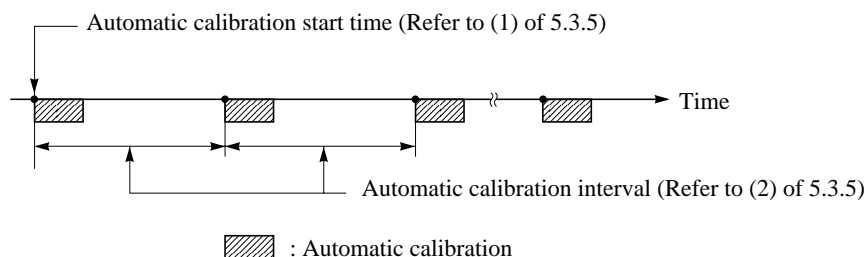

Fig. 5-2 Automatic calibration cycle
- (4) In a cyclic of automatic calibration, the first automatic calibration cycle is effected at the automatic calibration start time, and the second automatic calibrations onward are performed after the set automatic calibration interval period as shown in Fig. 5-2.